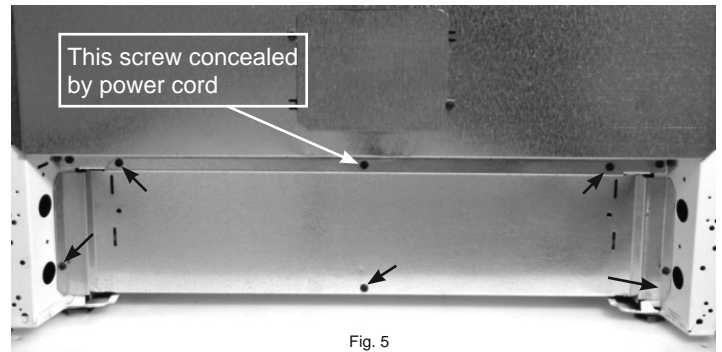

Fig. 5
2. Carefully position the receptacle behind the front chassis and install the mounting screws (Fig. 5)
From the rear of the range remove the six screws that secure the lower rear shield. (Fig. 5)